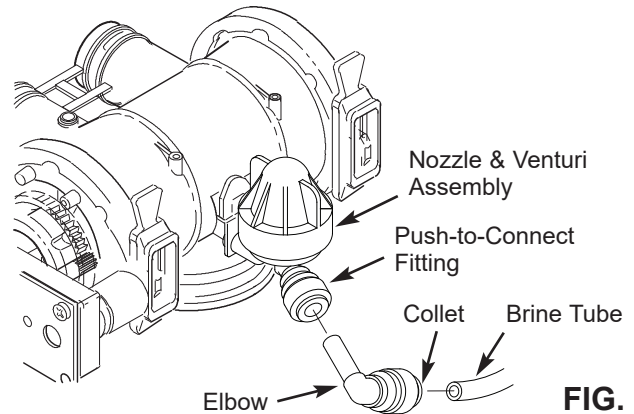
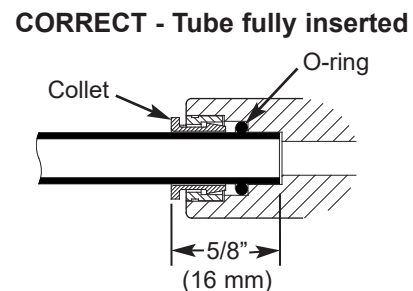

FIG. 10
FIG. 12
- Connect brine tube by inserting end into push-to-connect elbow on the valve's nozzle & venturi assembly (See Fig. 10). Push it until at least 5/8" (16 mm) of tube is inserted (See Fig. 12).